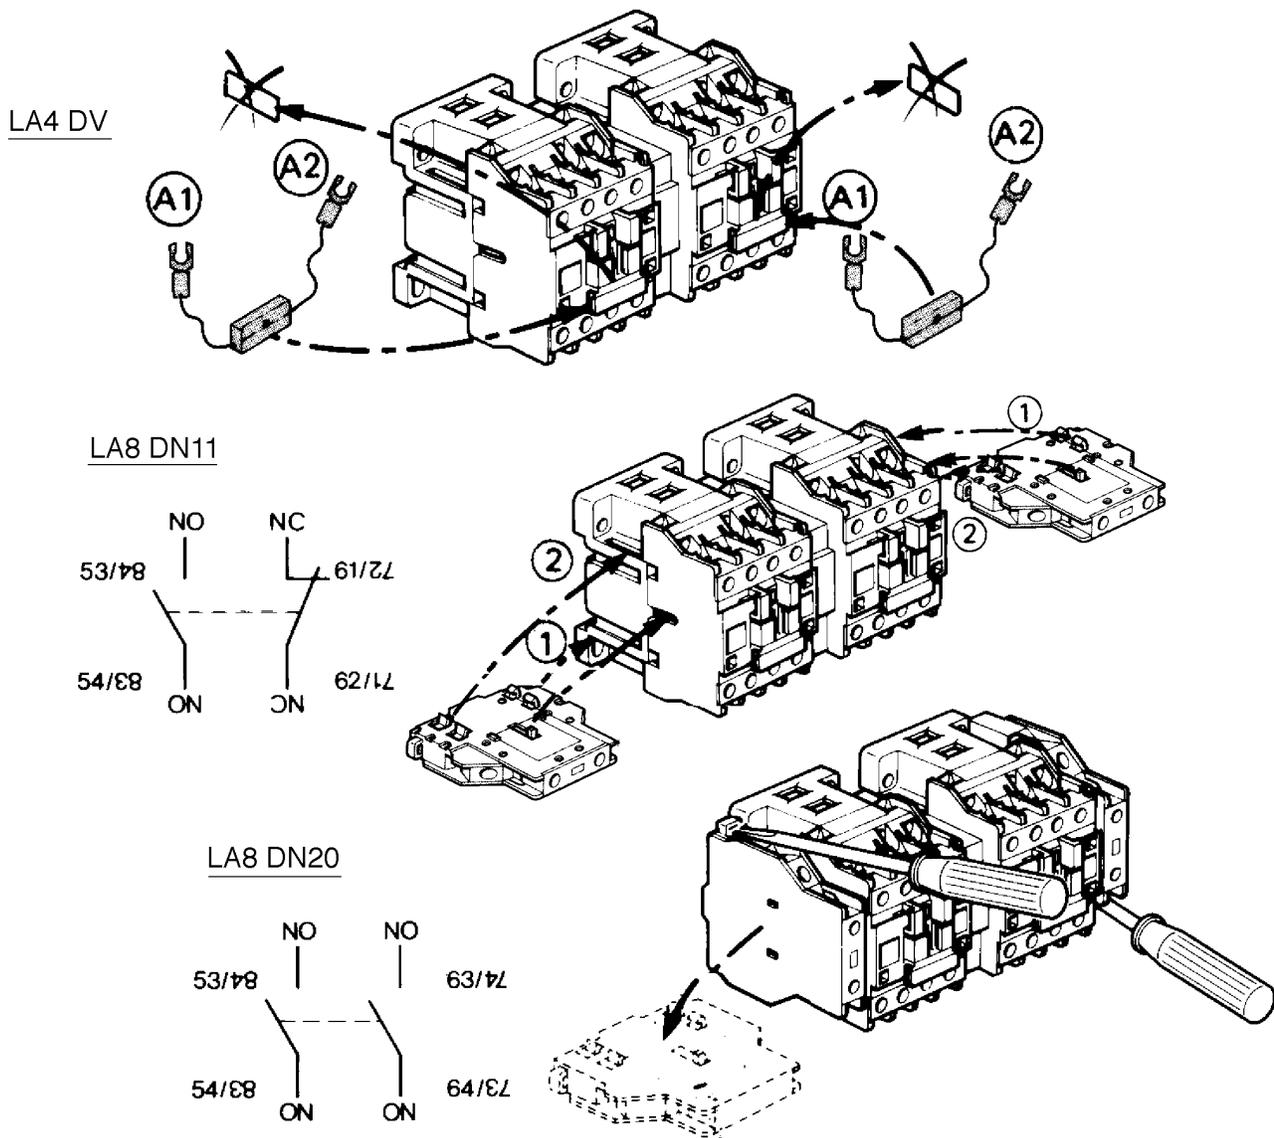

Figure 4 Mounting of Side Mounted Auxiliary Contact Block and Pilot Light to Contactor
(1) Refer to Interface Modules and Accessories
(2) Refer to Figure 4 for Mounting